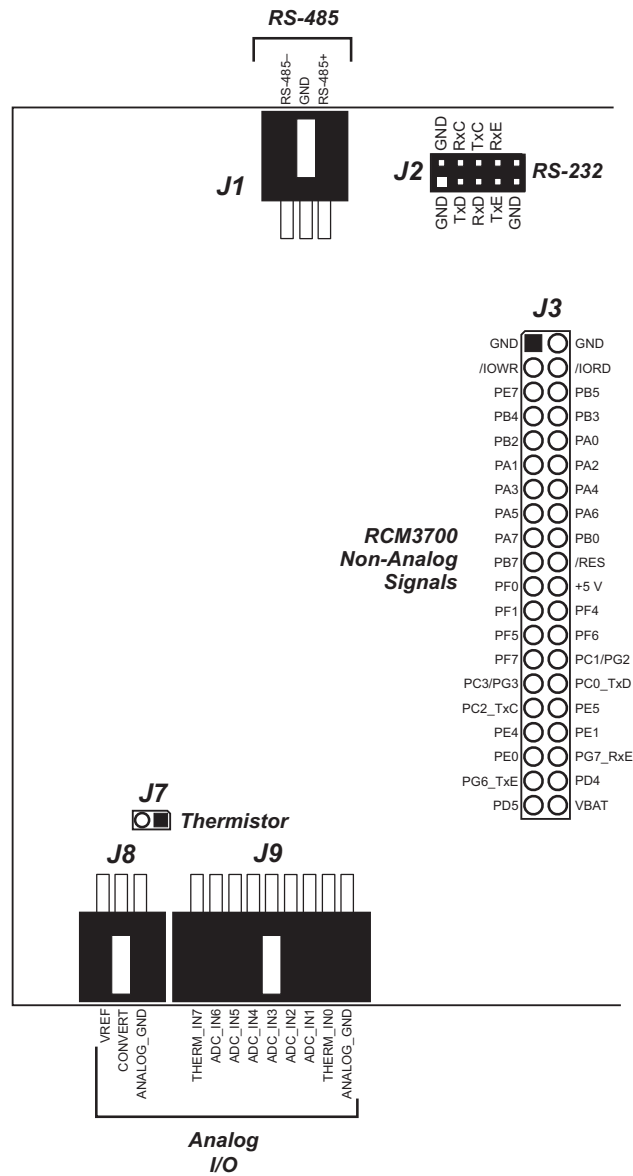

Figure B-4. RCM3700 Prototyping Board Pinout
- **Module Extension Headers**—The complete non-analog pin set of the RCM3700 module is duplicated at header J3. Developers can solder wires directly into the appropriate holes, or, for more flexible development, a 2 × 20 header strip with a 0.1" pitch can be soldered into place. See Figure B-4 for the header pinouts.
- **Analog I/O Shrouded Headers**—The complete analog pin set of the RCM3700 Prototyping Board is available on shrouded headers J8 and J9. See Figure B-4 for the header pinouts.
Figure B-4 shows the RCM3700 Prototyping Board pinouts.
Analog input THERM_IN7 on the Prototyping Board was designed specifically for use with a thermistor in conjunction with the **THERMISTOR.C** sample program, which demonstrates how to use analog input THERM_IN7 to calculate temperature for display to the Dynamic C **STDIO** window. The sample program is targeted specifically for the thermistor included with the Development Kit with $R_0 @ 25^\circ\text{C} = 3 \text{ k}\Omega$ and $\beta 25/85 = 3965$. Be sure to use the applicable R_0 and β values for your thermistor if you use another thermistor. Install the thermistor at location J7, which is shown in Figure B-4.